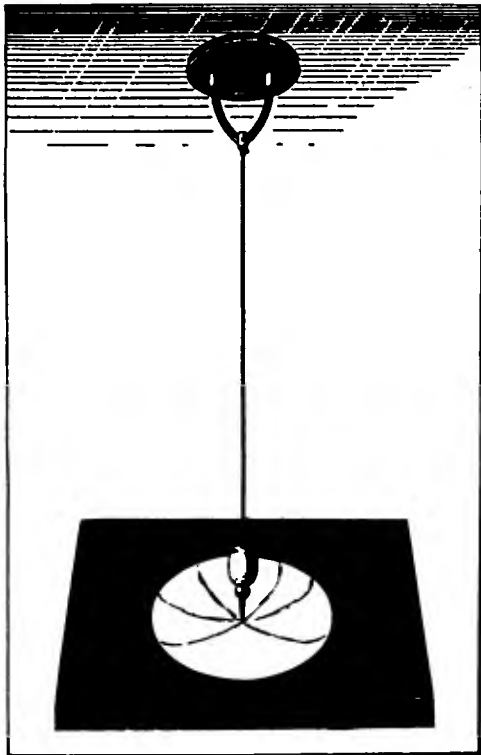

Figure 57.
**Foucault's Pendulum Experiment.**—Among these experimental proofs the most impressive is the pendulum experiment devised and first executed by Foucault in 1851. From the dome of the Pantheon in Paris, he hung a heavy iron ball about a foot in diameter by a wire more than 200 feet long (figure 57). A circular rail some twelve feet across, with a little ridge of sand built upon it, was placed in such a way that a pin attached to the swinging ball would just scrape the sand and leave a mark at each vibration. To put